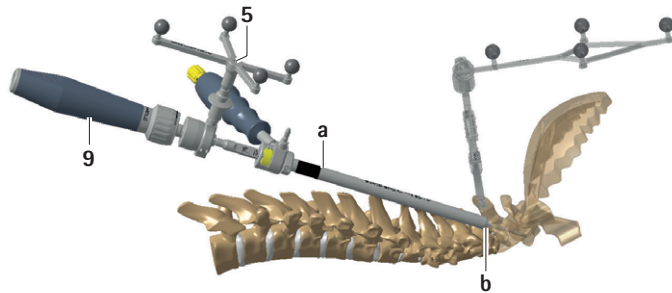

Fig. 16
- ▶ Prepare the tap and the screwdriver, see Fig. 16, see Chapter 3.6.1, see Chapter 3.7.1.